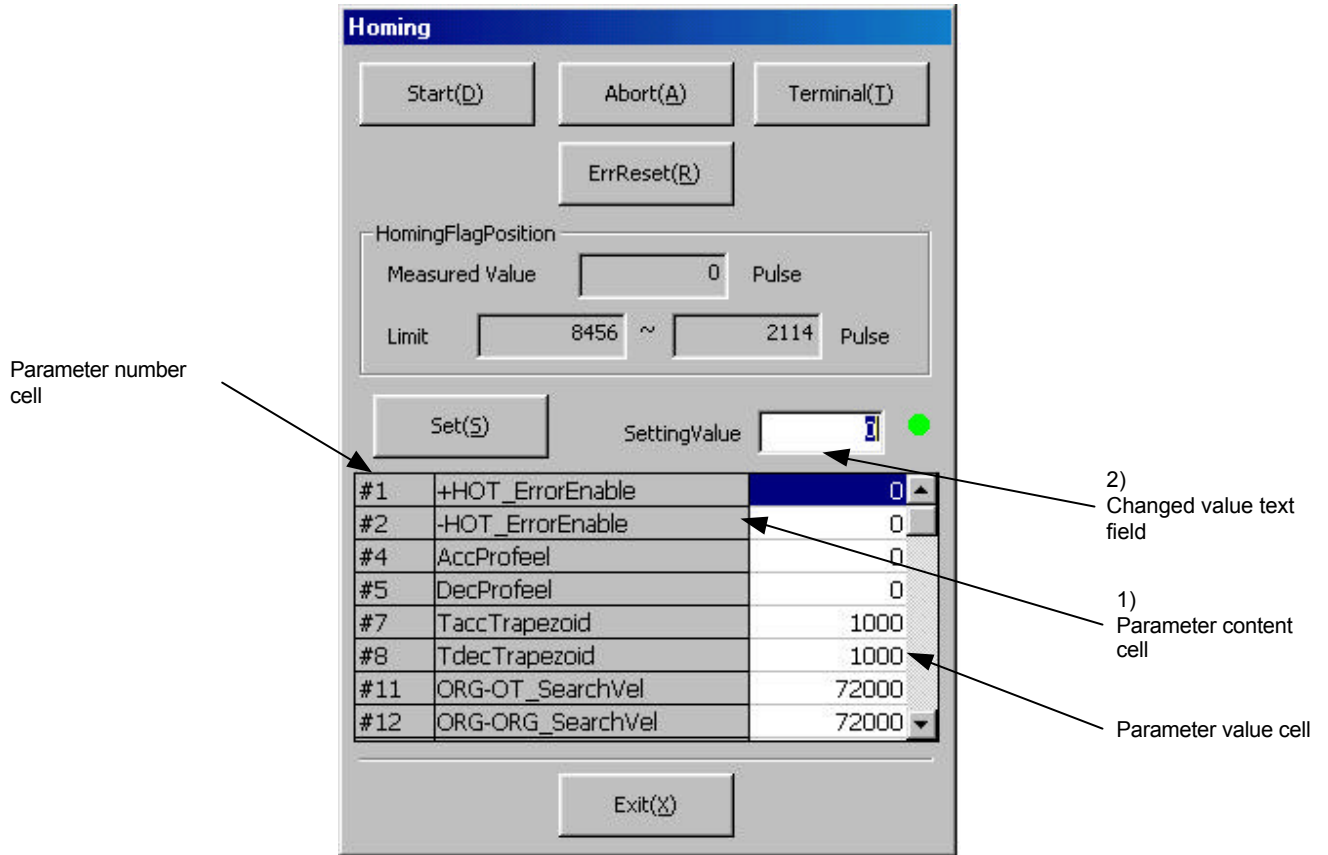

Figure 7.21 “Homing” dialog box
Click “Homing (O)” in the “DriveMenu” dialog box to display the “Homing” dialog box (see Figure 7.21). If the connection with the driver is established, the current values of the related parameters are read and can be edited.